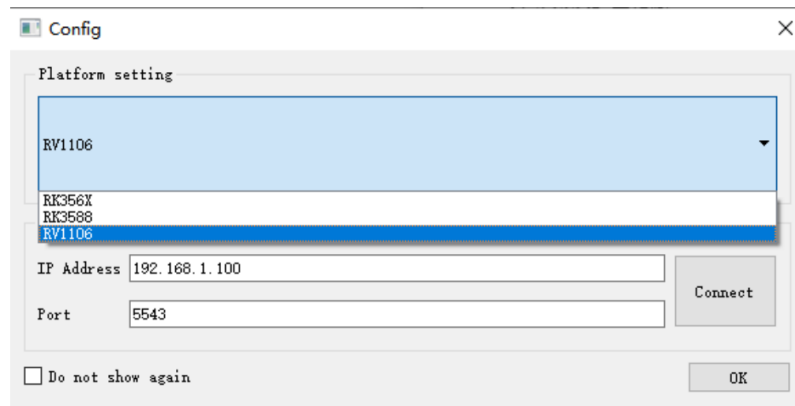

Figure 3-3-1
1. Open RKISP Tuner, the initial configuration window as shown in Figure 3-3-1.